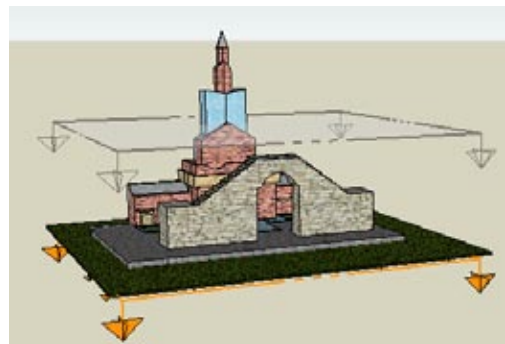

Figure 11-64
9. Close the tower component, and now the first two design elements (the outer walls and towers) are both hidden (Figure 11-64).